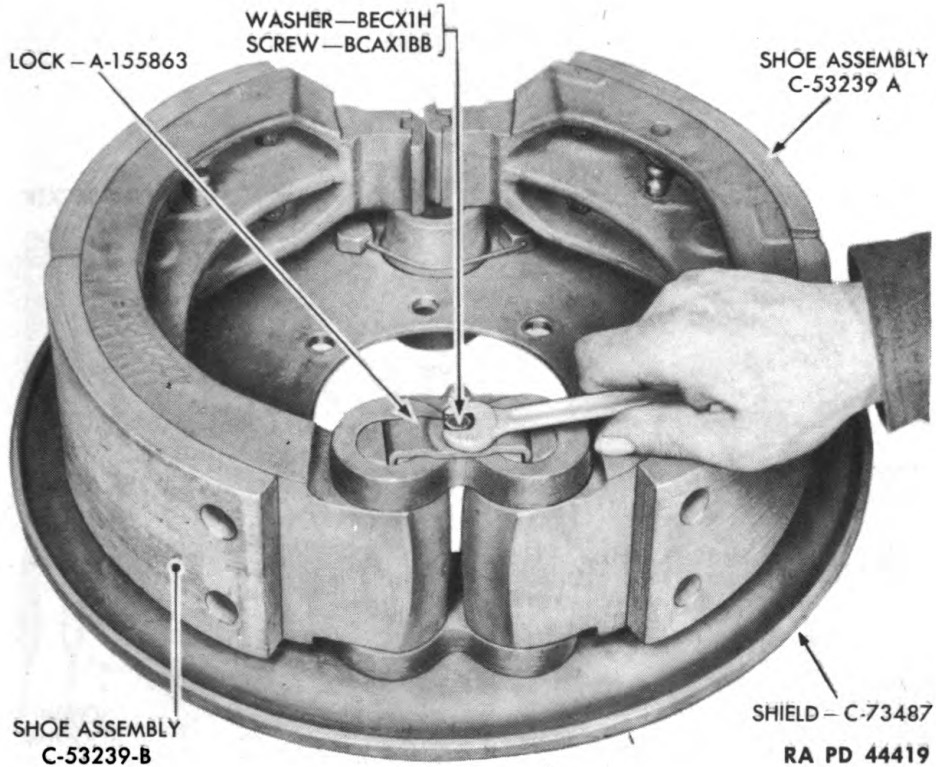
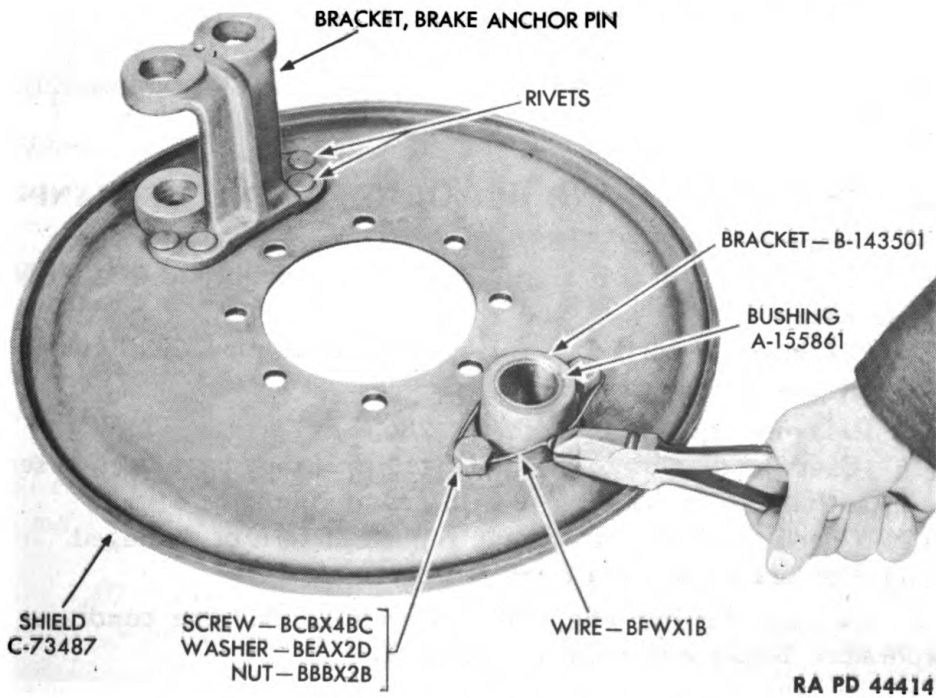

Figure 302—Removing Brake Shoe Anchor Pin Lock
Figure 303—Removing Brake Cam Bracket
(2) Turn wheel brake assembly over (fig. 302). Remove screw BCAX1BB and washer BECX1H from lock A155863. Lift off lock.
(3) Turn wheel brake assembly over again, and drive out the two pins A155860.
(4) Lift brake dust shield C73487 or C73488 away from brake shoes.
(5) Remove wire BFWX1B from screws BCBX4BC (fig. 303). Remove two screws, nuts BBBX2B, and washers BEAX2D from bracket B143501 and remove bracket.
(1) Check braking surface of each brake drum for scoring. Repair scored brake drums by refacing the braking surface on brake drum refacing machine or lathe. Cut just deep enough to remove score and restore full-surface contact between lining and drum.
(2) Check each inner bearing retainer. If bent, replace with a new retainer.
(3) Examine each pair of inner and outer roller bearings. If rollers are worn or bruised, or cups are scored, replace complete bearing.
(4) Check threads on all bolts, screws, and studs. Replace any that show signs of wear or stripping.
k. Brake Dust Shields (fig. 303).
(1) Check condition. If bent or damaged, replace.
(2) Tighten loose rivets in brake anchor pin bracket with a hammer and rivet set.
l. Brake Cam Bracket (figs. 302 and 303).
(1) Replace bushing in brake cam bracket if worn. Press old bushing out with an arbor press.
(2) Coat outside surface of new bushing with TALLOW, mutton, refined, or LEAD, white, and press into place with an arbor press.
(2) Place brake lining in position, and secure to brake shoe with screws, nuts, and washers.
(3) Insert brake cam bracket in place in brake dust shield. Secure bracket to shield with two screws, lock washers, and nuts. Then safety-wire screws in place (fig. 303).
(4) Install upper brake shoe assembly and lower brake shoe assembly on brake dust shield. Coat brake anchor pins with a light coat of **GREASE**, general purpose (seasonal grade). Drive pins into position in brake anchor pin bracket and shoes. Be sure to install pins with slotted ends on the brake shoe side.
(5) Place brake shoe anchor pin lock in position (fig. 302), and secure with screw and washer.